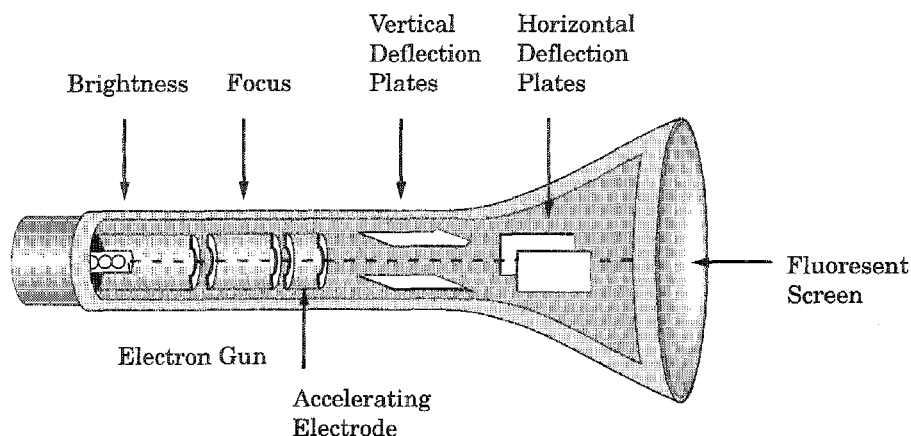

Figure 38.1 Cathode-ray tube.
The fundamental working part of an oscilloscope is a cathode-ray tube (CRT). Its components include: (1) a heated filament to emit a beam of electrons, (2) a series of electrodes to accelerate, focus, and control the intensity of the emitted electrons, (3) two pairs of deflection plates that deflect the electron beam when there is a voltage between the plates (one pair for deflection in the horizontal direction and one pair for deflection in the vertical direction), (4) a fluorescent screen that emits a visible spot of light at the point where the beam of electrons strikes the screen. Together the heated filament and series of electrodes in (1) and (2) above are called an "electron gun." The electron gun and deflecting plates are arranged linearly inside an evacuated glass tube, and the fluorescent screen coats the glass tube at the opposite end of the tube from the electron gun as shown in Figure 38.1.